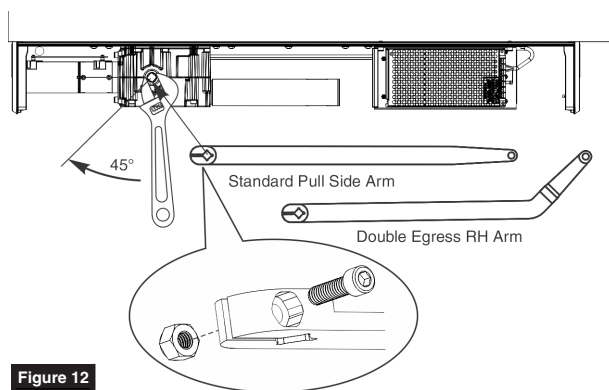

Figure 12
1. Using an adjustable wrench, rotate top pinion 45 degrees toward door hinge. You will feel resistance from spring. (Figure 12)
2. While holding pinion at 45 degrees, slide arm on bottom pinion at orientation shown. (Figure 12)